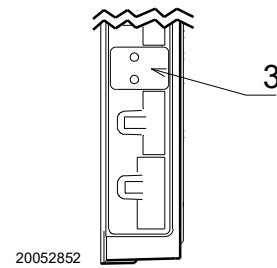

Fig. 26
If the 4-pole socket becomes unhooked, apply the supplied cover, as in Fig. 26.
The socket cover 3)(Fig. 26) must only be removed when the 4-pole socket is in use.
- Check the gas supply pressure by connecting a pressure gauge to the pressure test point 1)(Fig. 26) of the minimum gas pressure switch: it must be lower than the maximum allowed pressure of the gas train, as shown on the characteristics label.